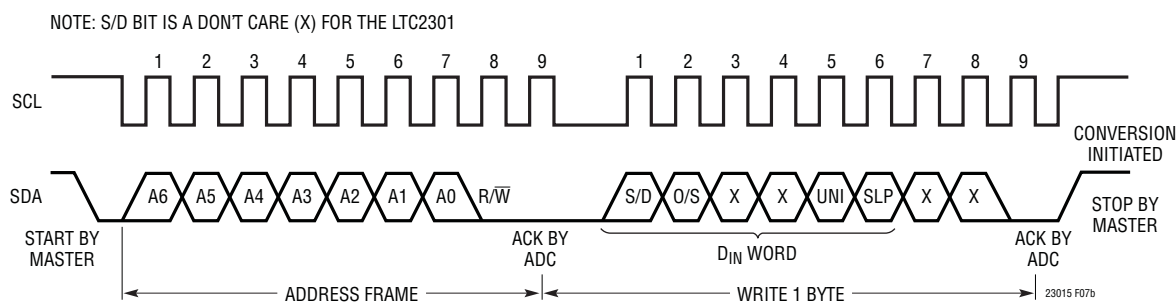

Figure 7b. Timing Diagram for Writing to the LTC2301/LTC2305
The software compatible LTC2301/LTC2305/LTC2309 family features a 6-bit D_{IN} word to program various modes of operation. Don't care bits (X) are ignored. The SDA data bits are loaded on the rising edge of SCL during a write operation, with the S/D bit loaded on the first rising edge and the SLP bit on the sixth rising edge (see Figure 7b in the I²C Interface section). The input data word for the LTC2305 is defined as follows:
When the LTC2301/LTC2305 is addressed for a write operation, it acknowledges by pulling SDA LOW during the LOW period before the 9th cycle and acts as a receiver. The master/transmitter can then send 1 byte to program the device. The input byte consists of the 6-bit D_{IN} word followed by two bits that are ignored by the ADC and are considered don't cares (X) (see Figure 7b). The input bits are latched on the rising edge of SCL during the write operation.